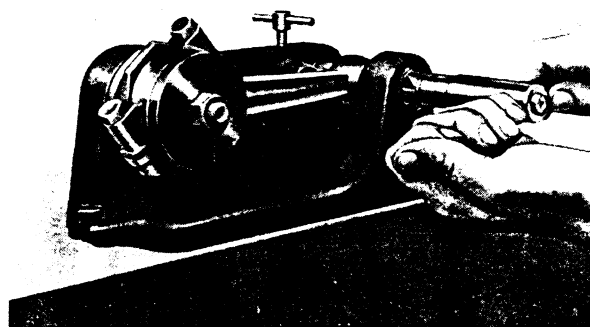

FIG. 39
6. Rotate reamer by means of torque bar, as shown in Fig. 39, applying light forward motion so that teeth begin to cut into bush.